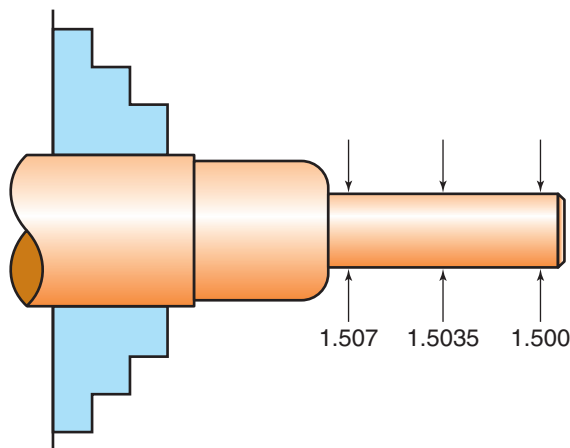

Figure 20-40 What is the most likely cause?
13. Per Fig. 20-40, the part shows the drawing measurements on the 1.500-in. straight diameter after making